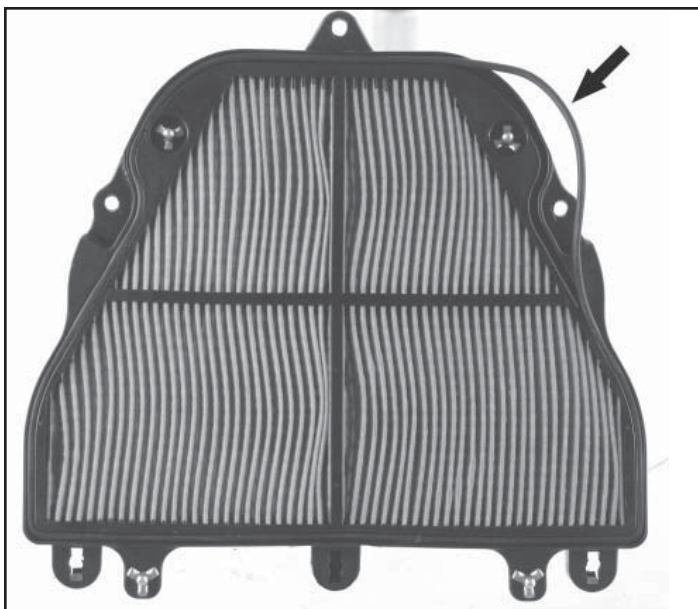

Fig. 1
2. Remove the stock o-ring from the groove in the stock air filter. (Fig. 1)